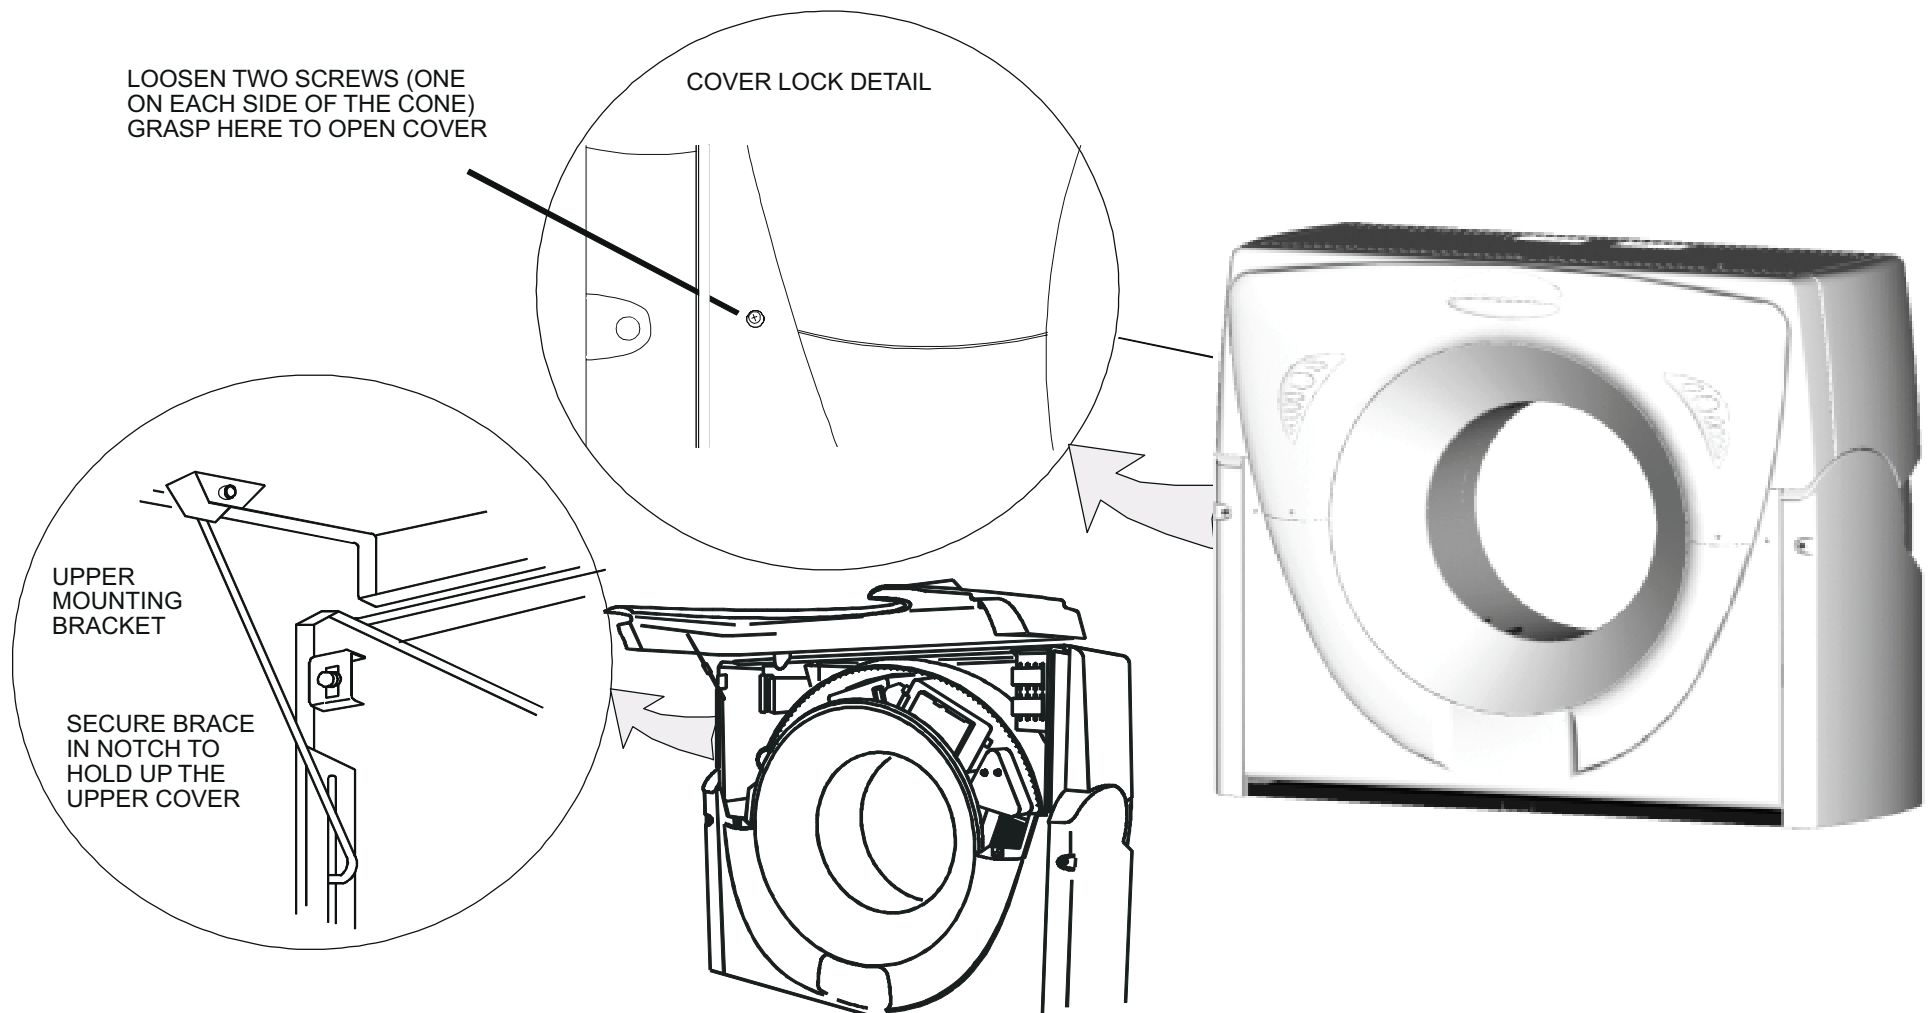

FIGURE 228 GANTRY UPPER PANEL OPENING
1. Loosen the captive screws on the front cover, lift up and secure. Refer to Figure 228.